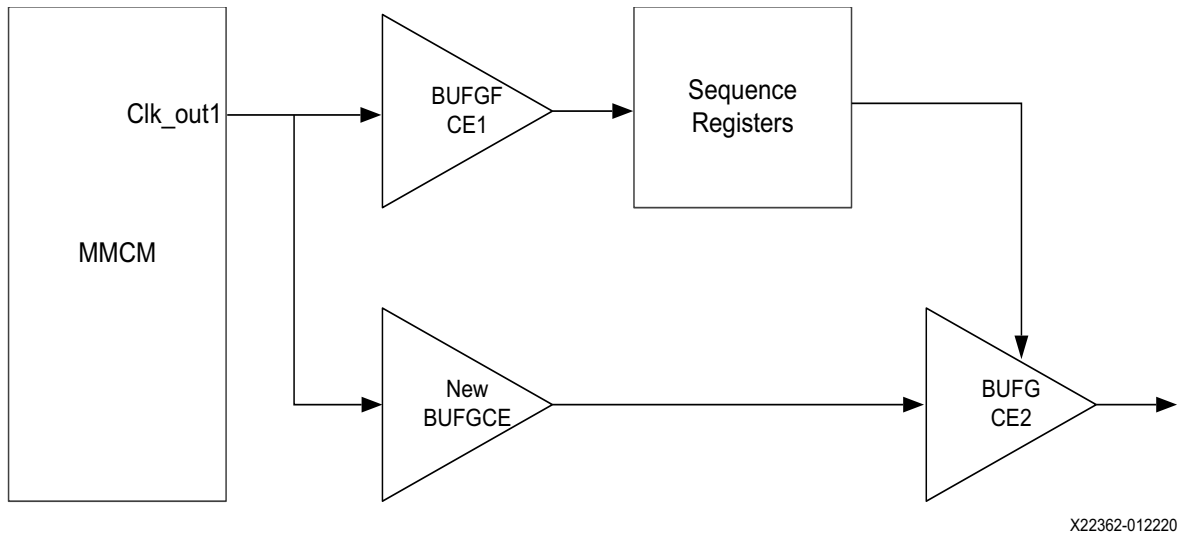

Figure C-1: Safe Clock Startup Failing Path
1. Add an additional BUFGCE cascaded in the failing clock path along with the existing BUFGCE in safe clock startup path. Figure C-1 shows the failing path for the clk\_out1. Insert New BUFGCE between MMCM and the BUFGCE2 as shown below.